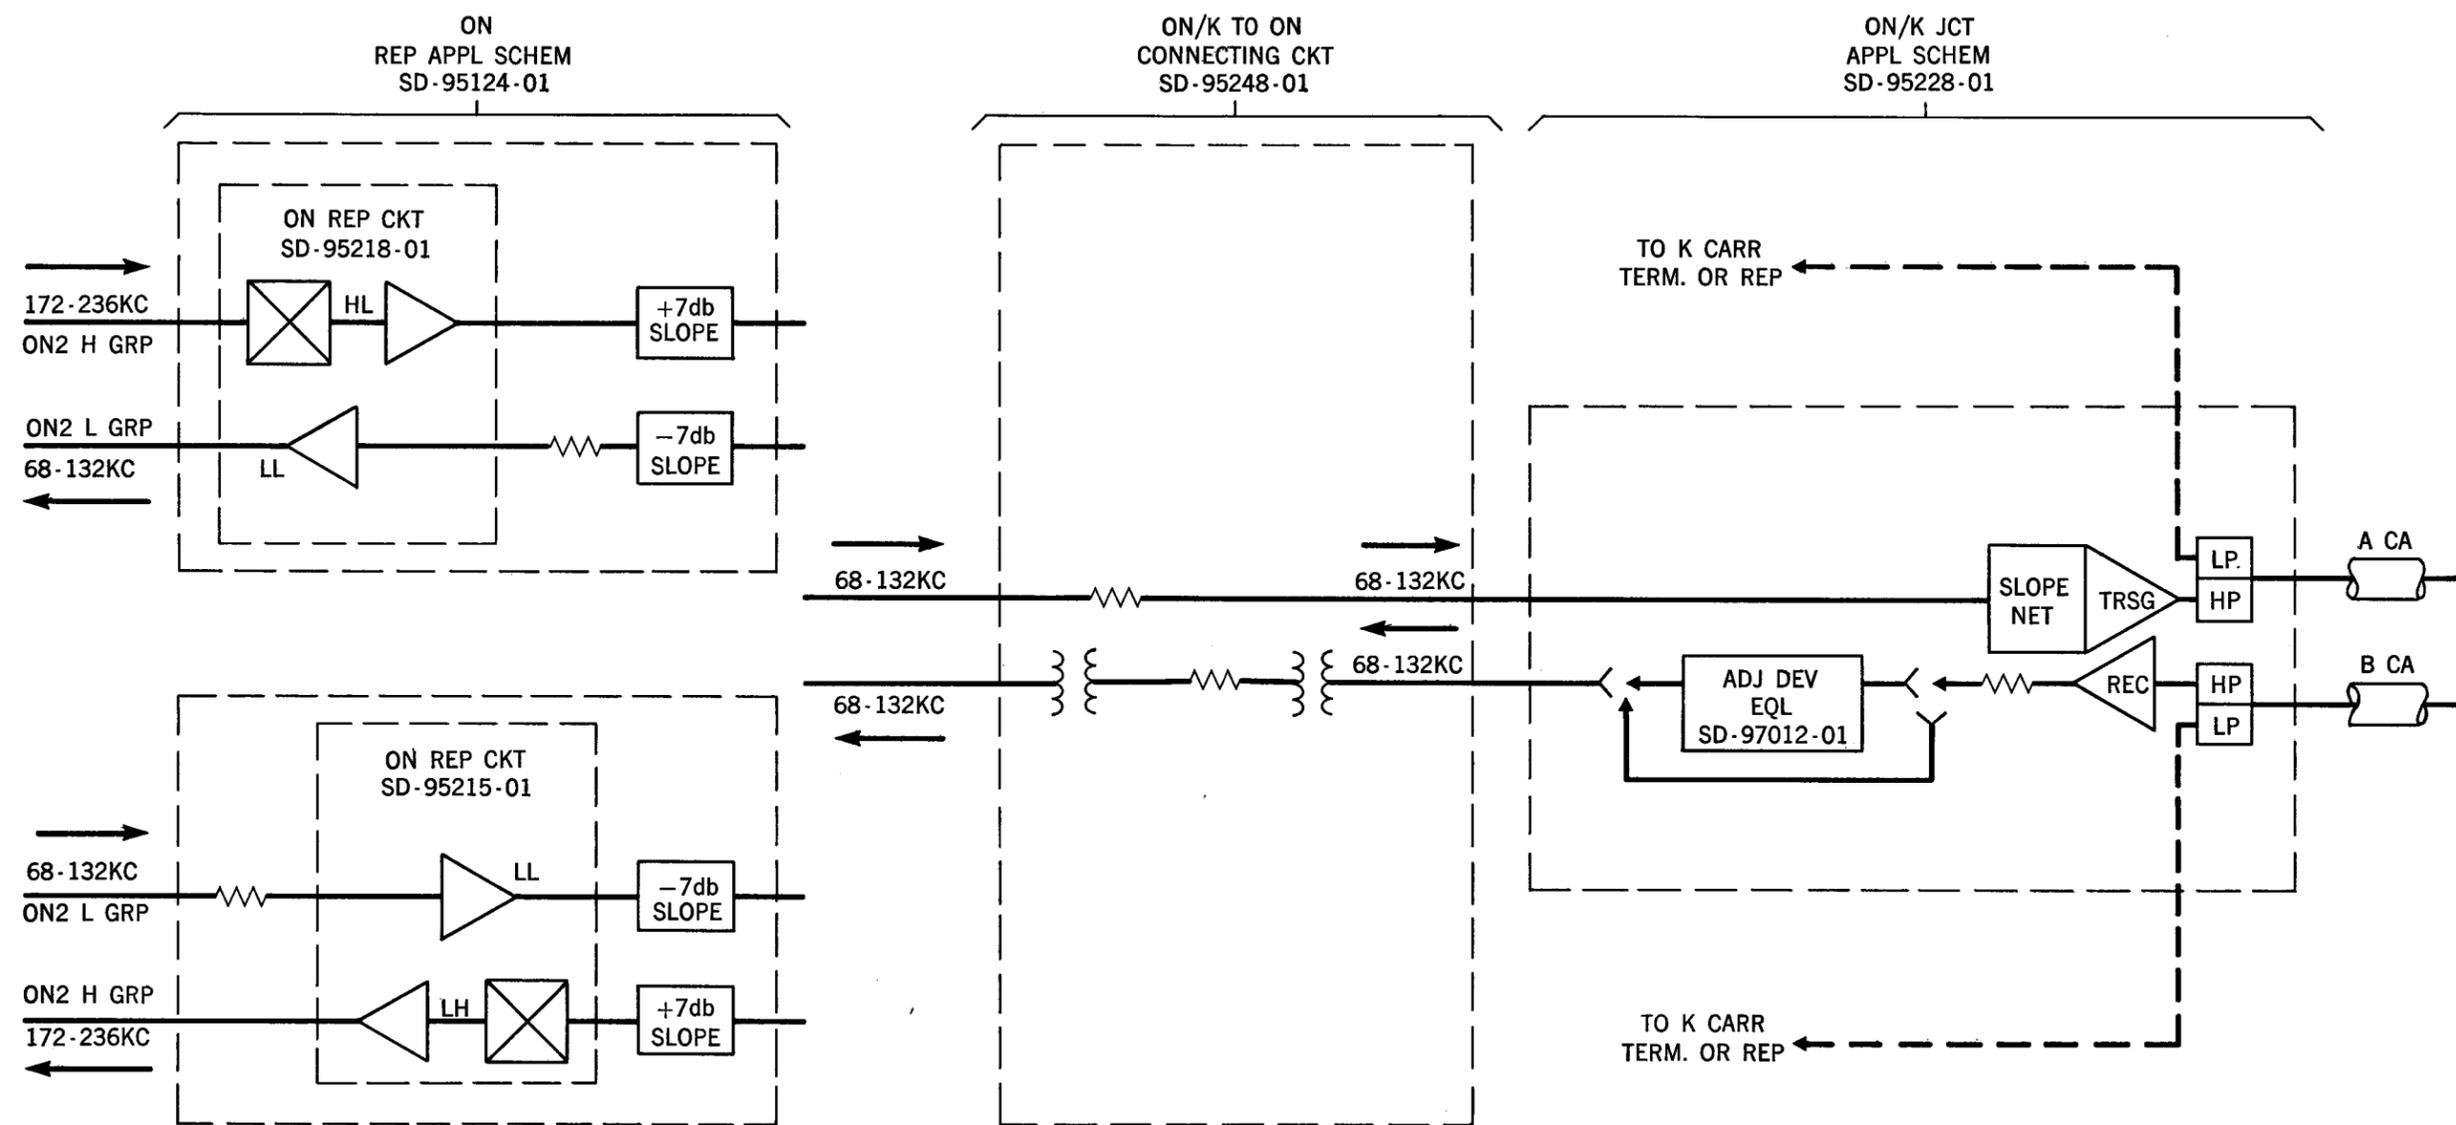

Fig. 4 - Block Diagram of a Typical ON/K to ON Junction
2.04 In the connecting circuit, the signal level is further reduced by a pad to that required for the input to an ON repeater. For ON1/K to ON1 carrier, a level control oscillator with an adjustable output level is connected to the circuit to supply an artificial load to replace that of ON1 groups 4 and 5. The oscillator is not used for ON2/K because its output frequency lies in the ON2 carrier group 4 band. In the ON to ON/K direction, the output of the ON repeater is reduced in level by a pad in the ON/K to ON connecting circuit and then connected to the input of an ON/K transmitting amplifier for pre-equalization and level regulation. The output of the transmitting amplifier is connected to the output line filter where it is combined with the K system output. Fig. 4 shows in block form a typical ON/K to ON junction.